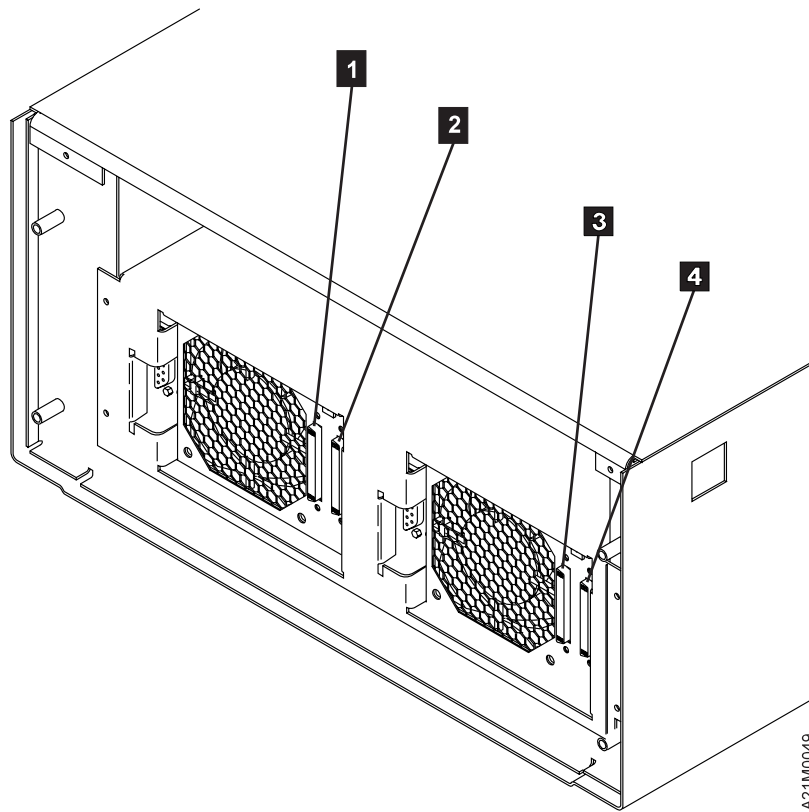

Figure 55. Rear View of Model C22
2. Ensure the SCSI Bus Jumper is connected to the rightmost SCSI connector on the back of tape drive 1, and to the leftmost SCSI connector on the back of tape drive 2. (See items **2** and **3** in Figure 55 on page 115).
3. If the 3570 is the first, or only, device in line connected to the initiator, connect the SCSI cable coming from the initiator to the leftmost SCSI connector on the back of the library. (See item **1** in Figure 55 on page 115).
4. If the 3570 is **not** the first device on the SCSI bus, connect the SCSI interface cable coming from the next closest device to the leftmost SCSI connector on the back of the library. (See item **1** in Figure 55 on page 115).
5. If this is the last device on the SCSI bus, locate the SCSI interface terminator (P/N 61G8324) and attach it to the rightmost SCSI interface connector on the back of the library. (See item **4** in Figure 55 on page 115). If the library is **not** the last device on the SCSI bus, locate the SCSI interface cable to the next device, and connect it to the unused, rightmost SCSI interface connector on the back of the library. (See item **4** in Figure 55 on page 115).
8. If tape drive 1 in the 3570 is the first, or only, device in line connected to the initiator, connect the SCSI cable coming from the initiator to the leftmost SCSI connector on the back of tape drive 1. (See item **1** in Figure 55 on page 115).
9. If tape drive 1 is **not** the first device on the SCSI bus, connect the SCSI interface cable coming from the next closest device to the leftmost SCSI connector on the back of tape drive 1. (See item **1** in Figure 55 on page 115).
10. If tape drive 1 is the last device on the SCSI bus, locate the SCSI interface terminator (P/N 61G8324) and attach it to the rightmost SCSI interface connector on the back of tape drive 1. (See item **2** in Figure 55 on page 115).
11. If tape drive 1 is **not** the last device on the SCSI bus, locate the SCSI interface cable to the next device, and connect it to the unused, rightmost SCSI interface connector on the back of tape drive 1. (See item **2** in Figure 55 on page 115).
12. If tape drive 2 in the 3570 is the first, or only, device in line connected to the initiator, connect the SCSI cable coming from the initiator to the leftmost SCSI connector on the back of tape drive 2. (See item **3** in Figure 55 on page 115).
13. If tape drive 2 is **not** the first device on the SCSI bus, connect the SCSI interface cable coming from the next closest device to the leftmost SCSI connector on the back of tape drive 2. (See item **3** in Figure 55 on page 115).
14. If tape drive 2 is the last device on the SCSI bus, locate the SCSI interface terminator (P/N 61G8324) and attach it to the rightmost SCSI interface connector on the back of tape drive 2. (See item **4** in Figure 55 on page 115).
15. If tape drive 2 is **not** the last device on the SCSI bus, locate the SCSI interface cable to the next device, and connect it to the unused, rightmost SCSI interface connector on the back of tape drive 2. (See item **4** in Figure 55 on page 115).
16. When the 3570 is correctly connected, all four SCSI connectors on back of the Magstar MP (see **1** , **2** , **3** , and **4** in Figure 55 on page 115) must have either a SCSI cable or a SCSI terminator attached.